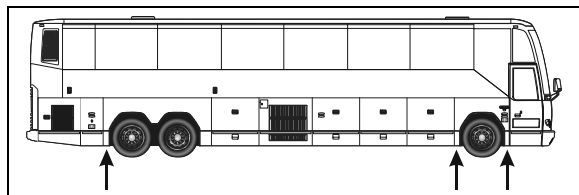

FIGURE 5: JACKING POINTS ON FRAME 18524
1. Raise vehicle by its jacking points on the body (fig. 5 or see Section 18, "Body" under heading "Vehicle Jacking Points"). Place jack stands under frame. Remove drive axle wheels (if required, refer to Section 13, "Wheels, Hubs And Tires").